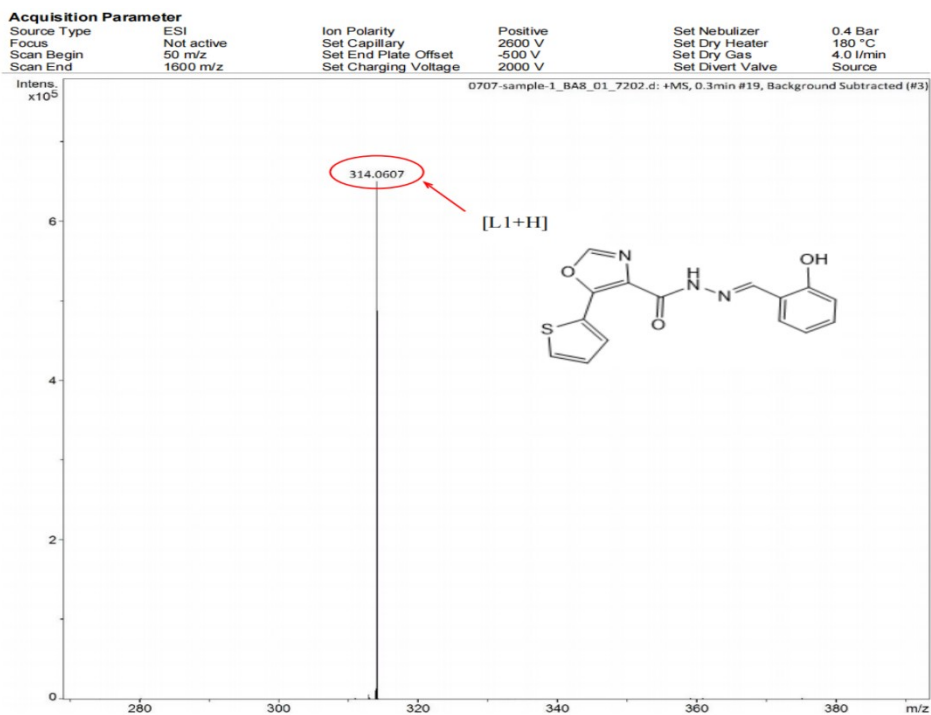

Figure S4. ESI-MS spectrum of L1.
4. **Figure S4.** ESI-MS spectrum of the **L1**.